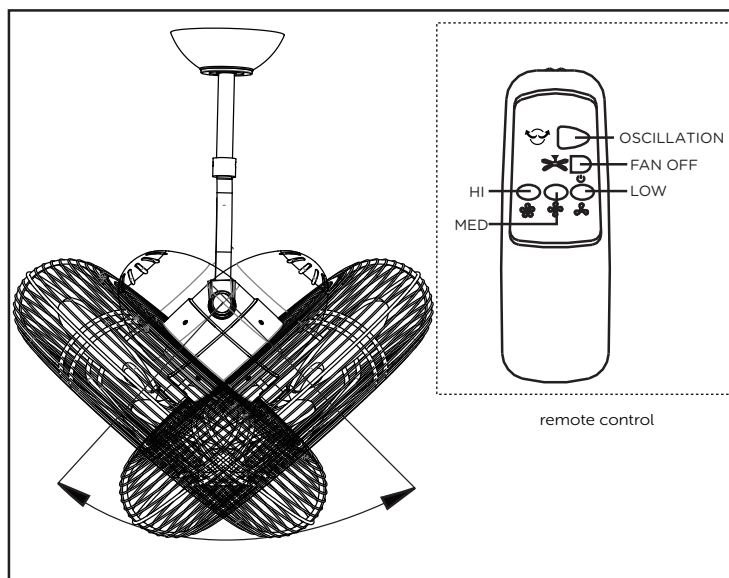

Fig. 13
13. The fan 3-speed control is used to set the fan speeds as follows: (Fig. 13)